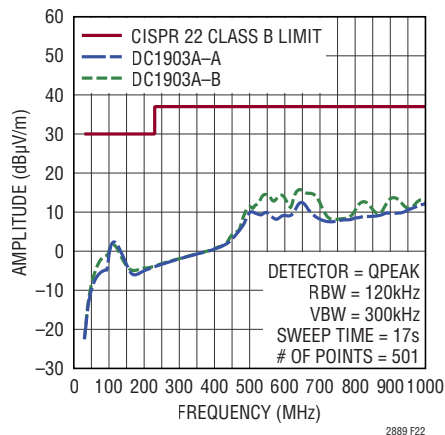

Figure 22. Low EMI Demo Board Emissions
- For large ground planes a small capacitance ($\leq 330\text{pF}$) from GND to GND2, either discrete or embedded within the substrate, provides a low impedance current return path for the module parasitic capacitance, minimizing any high frequency differential voltages and substantially reducing radiated emissions. Discrete capacitance will not be as effective due to parasitic ESL. In addition, voltage rating, leakage, and clearance must be considered for component selection. Embedding the capacitance within the PCB substrate provides a near ideal capacitor and eliminates component selection issues; however, the PCB must be 4 layers. Care must be exercised in applying either technique to insure the voltage rating of the barrier is not compromised. The PCB layout in Figures 17-21 show the low EMI demo board for the LTM2889. The demo board uses a combination of EMI mitigation techniques, including both embedded PCB bridge capacitance and discrete GND to GND2 capacitors (C3 + C4). Two safety rated type Y2 capacitors are used in series, manufactured by Murata, part number GA342QR7GF471KW01L. The embedded capacitor effectively suppresses emissions above 400MHz, whereas the discrete capacitors are more effective below 400MHz. EMI performance is shown in Figure 22, measured using a Gigahertz Transverse Electromagnetic (GTEM) cell and method detailed in IEC 61000-4-20, "Testing and Measurement Techniques – Emission and Immunity Testing in Transverse Electromagnetic Waveguides."